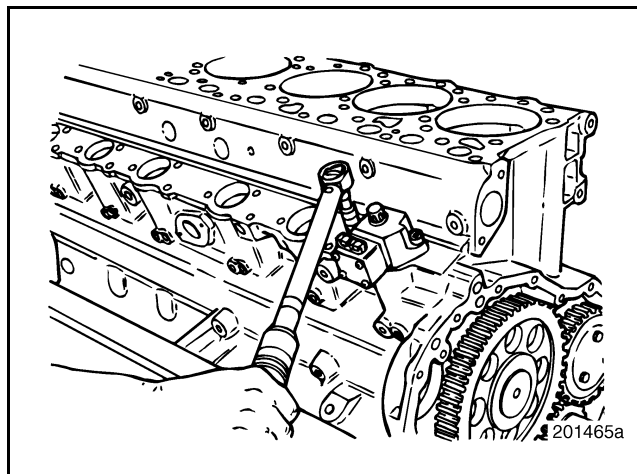

Figure 297 — Tightening Unit Pump Fasteners
3. Reinstall the EUP screws and tighten evenly to draw the EUP into the cylinder block (Figure 297). Tighten the screws to the specified torque, 42 lb-ft (57 N•m).